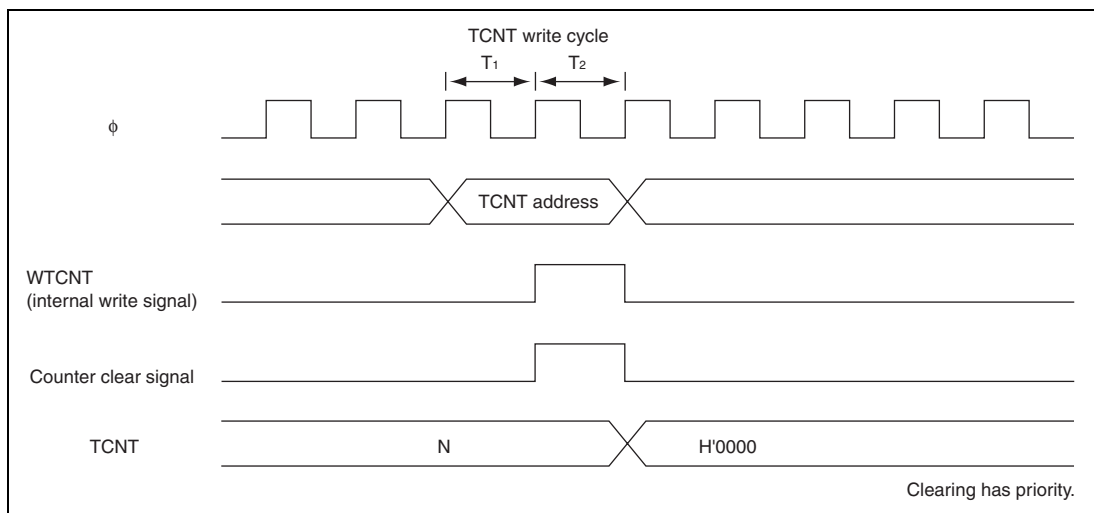

Figure 13.52 Contention between TCNT Write and Clear Operations
1. **Contention between TCNT Write and Clear Operations:** If a counter clear signal is generated in the T_2 state of a TCNT write cycle, TCNT clearing has priority and the TCNT write is not performed. Figure 13.52 shows the timing in this case.